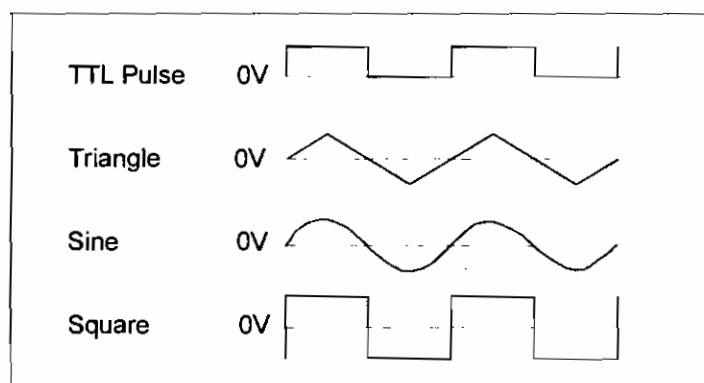

FIG. 3 OUTPUT WAVEFORMS AND PHASE RELATIONSHIPS
F. Select sine, square, or triangle wave output by pressing the corresponding FUNCTION button. FIG 3. illustrates the output waveforms and their phase relationships.